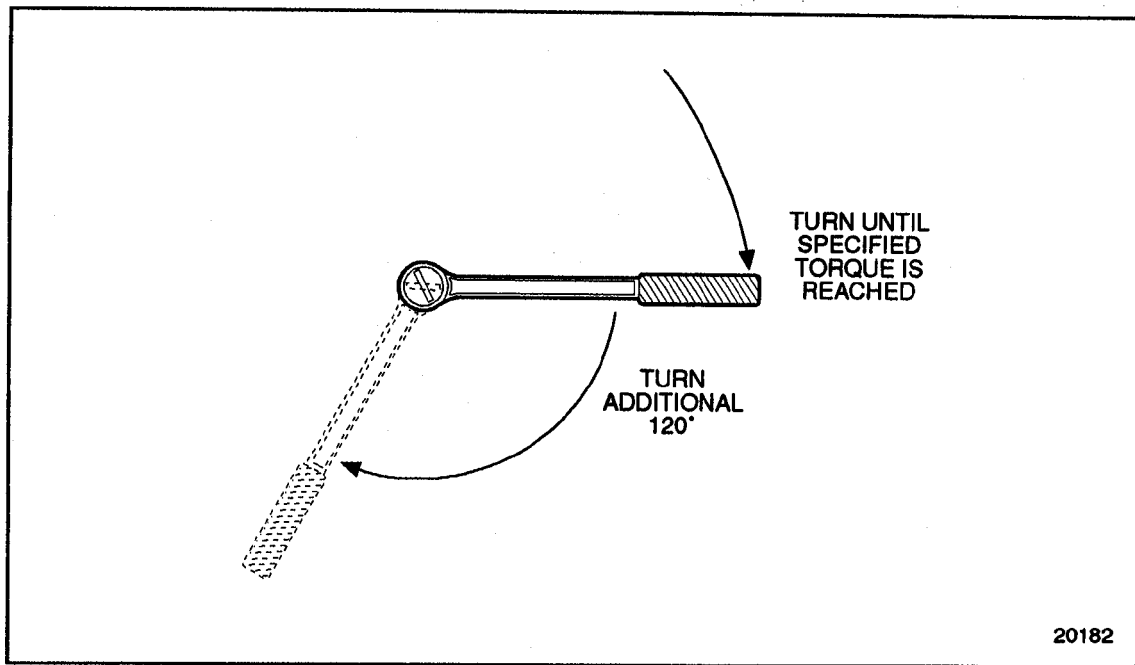

Figure 1-227 Torque Turn Limits
8. Turn the bolts an additional 120 degrees, or 2 flats on a six-point bolt. See Figure 1-227.